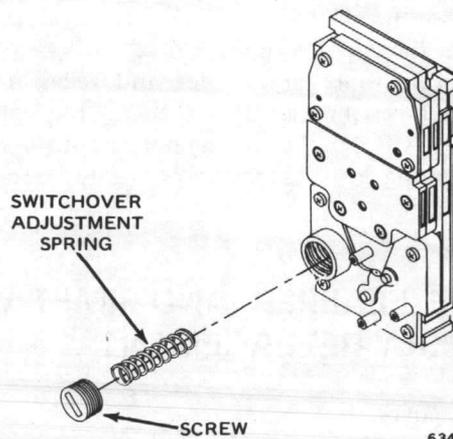

Fig. 22. Switchover Adjustment Spring Replacement.
1. Using screwdriver, carefully remove screw and switchover adjustment spring (Fig. 22). Refer to PARTS LIST in PARTS AND ACCESSORIES section for available springs.